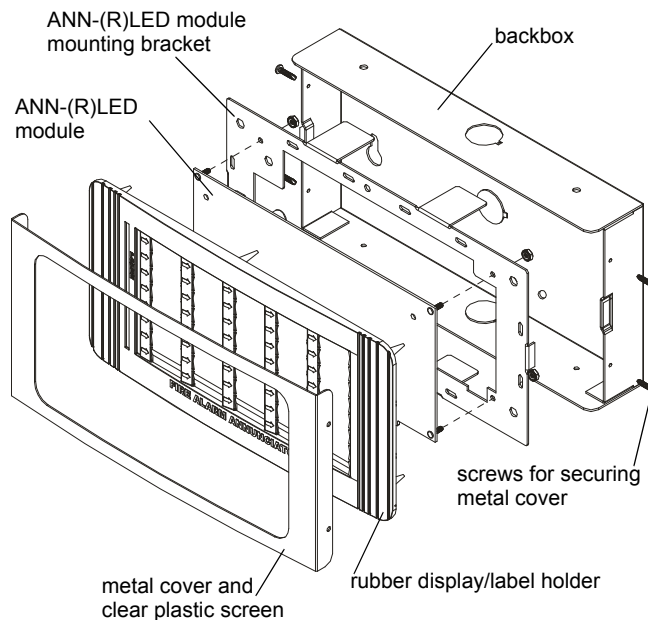

Figure 2 ANN-LED Series Exploded View
Figure 2 provides an exploded view of the ANN-(R)LED Series components.
The following steps describe the installation procedure for the ANN-LED Series. Refer to Figure 2 for component locations.
7. Reassemble the unit using Figure 2, “ANN-LED Series Exploded View” on page 1 as a guide.
1. Remove the four (4) screws securing the metal cover to the backbox, remove the cover with clear plastic screen and set aside.
2. Remove the rubber display/label holder, ANN-(R)LED module and mounting bracket as a single unit by sliding the two tabs on the side of the mounting bracket, away from the backbox. Refer to Figure 2 for component locations.
10. Reassemble unit using Figure 2 as guide.